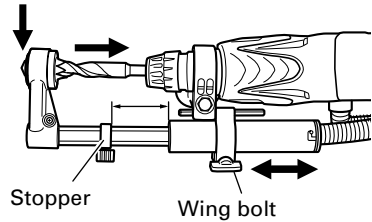

Fig. 12
After firmly inserting the drill bit, loosen the wing bolt and drill bit tip and the end of the dust-collecting adaptor in contact with each other (see Fig.12).
- Move the stopper to determine the stroke. The stroke is the hole-drilling depth (see Fig.12).
(3) Drilling holes